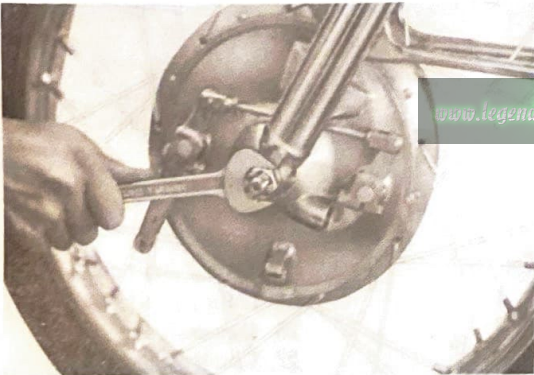

Fig. 5-1-3
- (2) Remove the cotter pin and front wheel shaft nut. (Fig. 5-1-3)